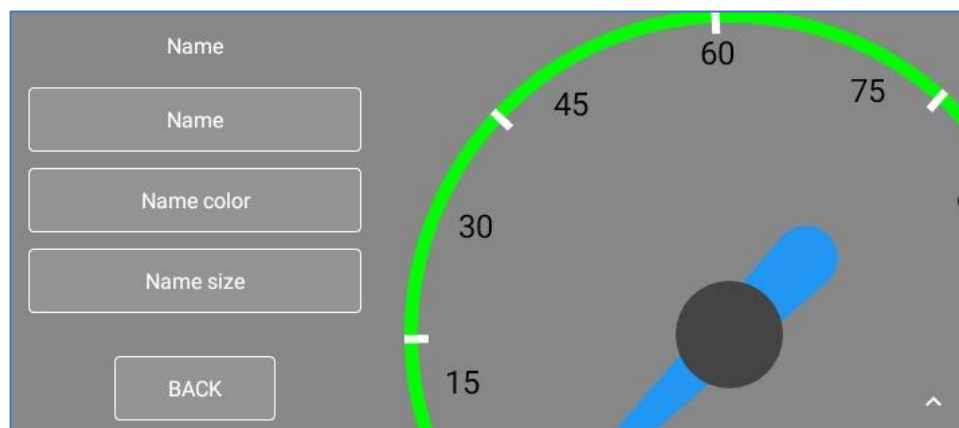

fig.4.6. Group of settings “Name”
- **Group of settings “Name”** allows setting up the name of indicator displayed on the dashboard(fig.4.6).